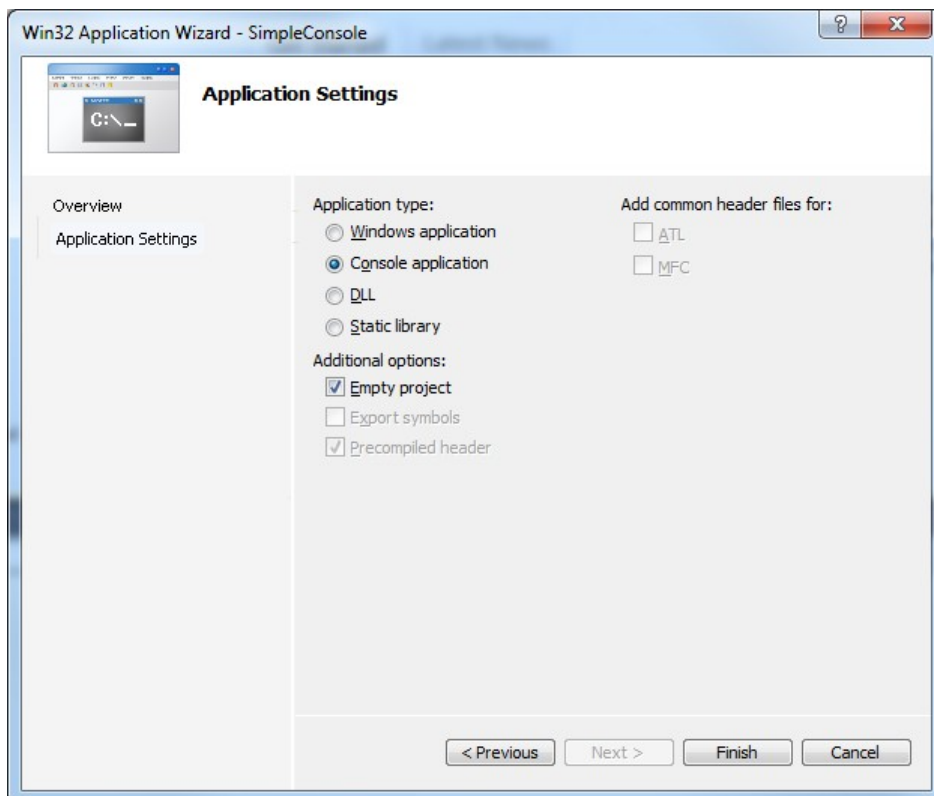

Figure 4. VC++ Express Console Application Setting
2. Click ‘Application Settings’ in the left hand column, and choose empty project in the application wizard. See Figure 4.